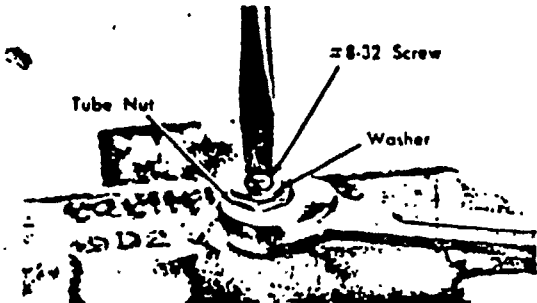

Fig. 37 Removing Tube Seat Insert - Delco Moraine
7. Install a spare brake line tube nut in outlet hole (fig. 37). Place a flat washer on 1" #8-32 screw and thread screw into threaded hole in tube seat insert. If threads in tube seat are damaged, run a #8-32 tap into the hole to clean up the threads.
9. From cavity beneath each tube insert, remove rubber check valve and check valve spring. (see fig. 37)